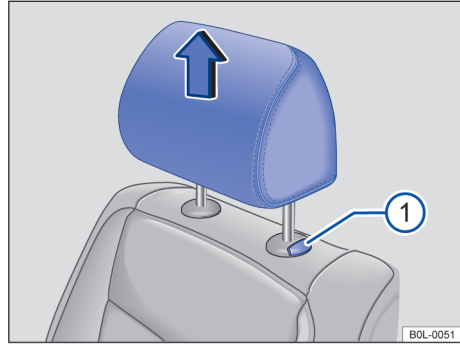

Fig. 60 Remove front seat head restraints
- Press button → Fig. 60 ① while pulling the head restraints out completely. ▶
- Press button → Fig. 60① and push down the headrests.